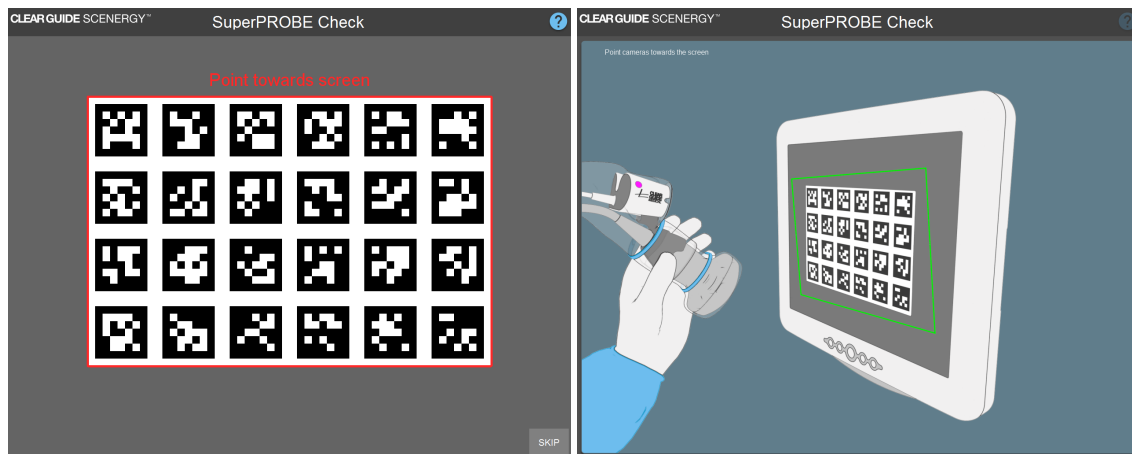

Figure 19: Point the SuperPROBE towards the **CLEAR GUIDE** CORE screen
1. Point the SuperPROBE toward the **CLEAR GUIDE** CORE screen (Figure 19).